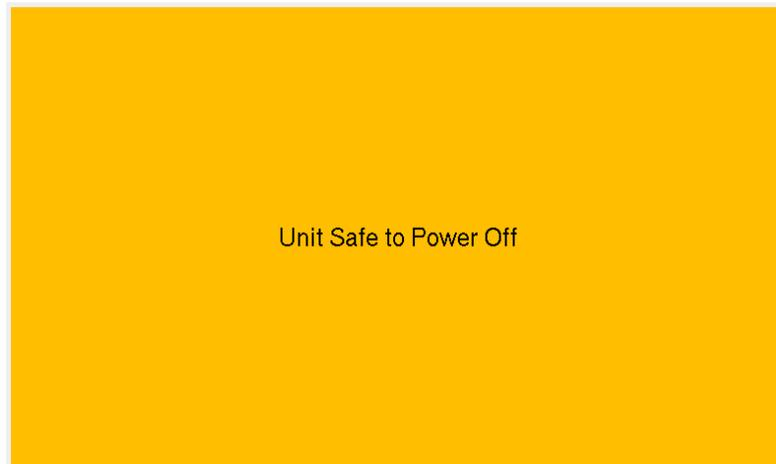

Figure E. 16 Cabin Pressure Mode – Step 2
12. Once the venting process is completed, the unit is safe to power off (Fig. E.16).